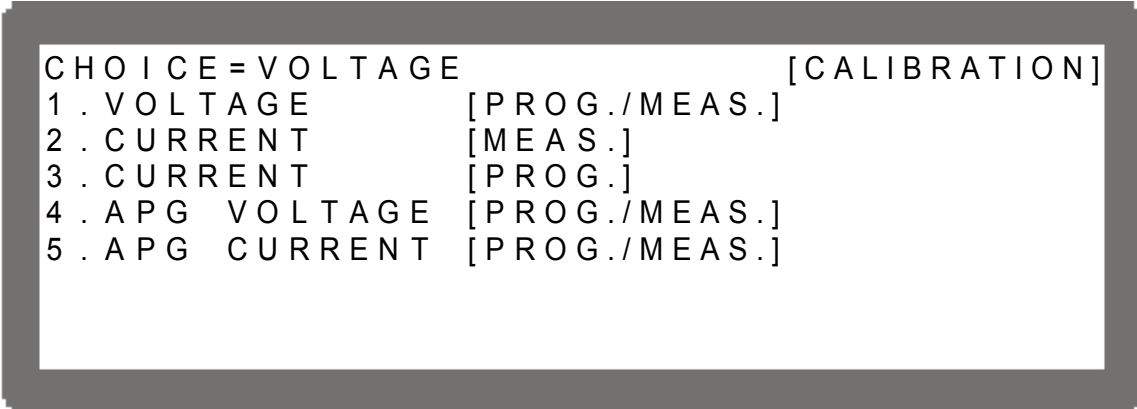

Figure 3-97
- 3. Enter the password and press “” to confirm. The screen will display 4 calibration options as Figure 3-97 shows. The calibration steps are described from section 3.3.7.1 to 3.3.7.5.
- 1. Enter into the page of Figure 3-97.